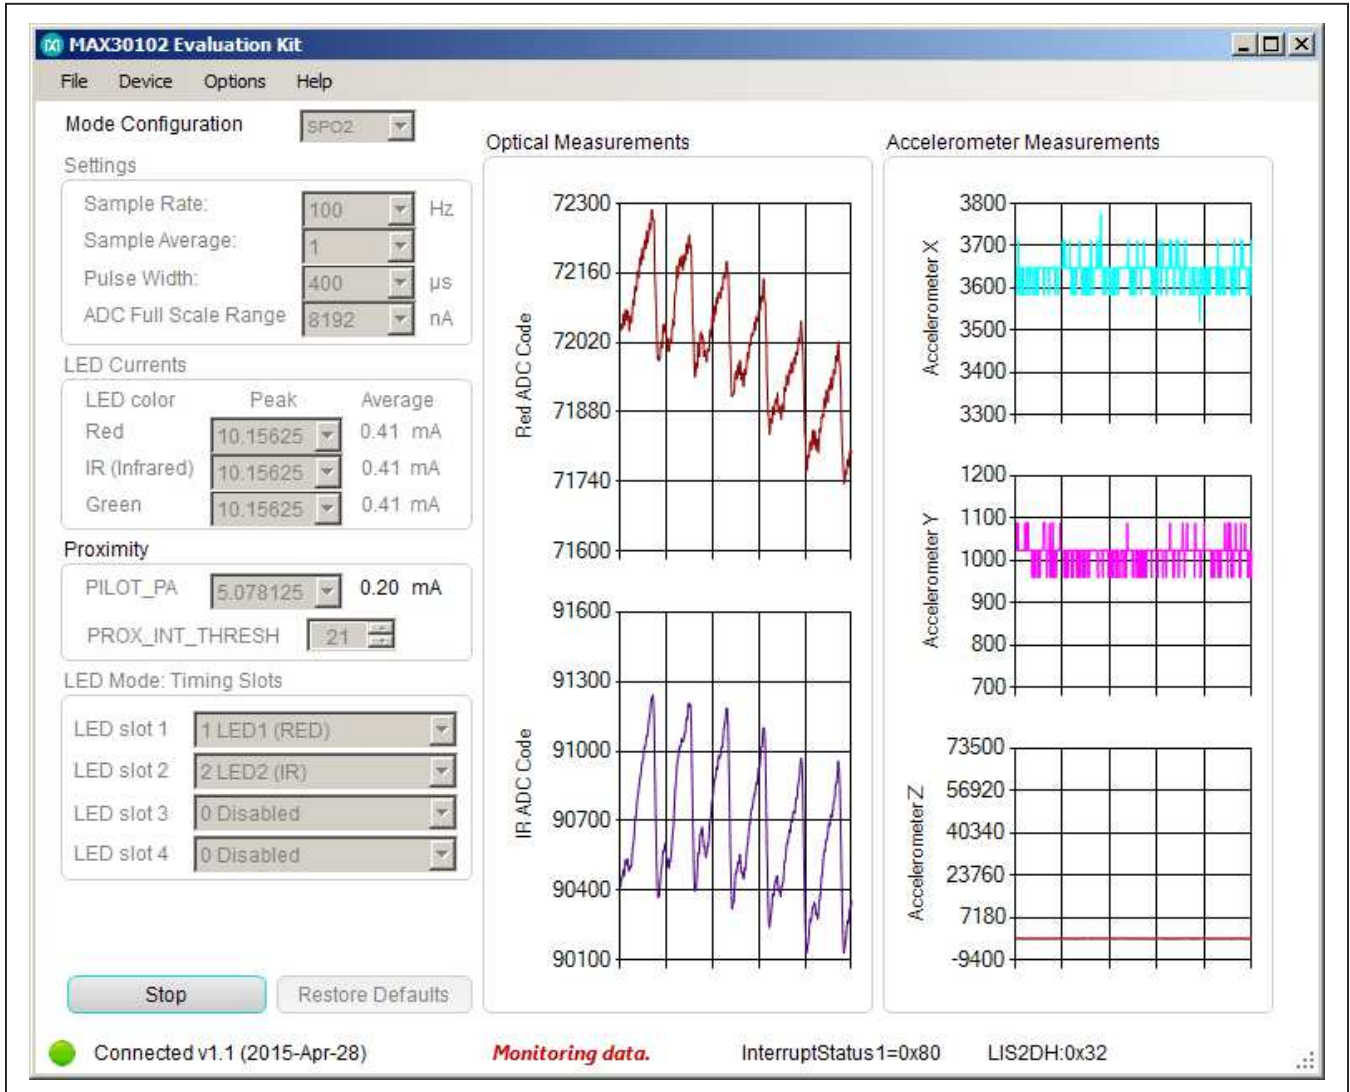
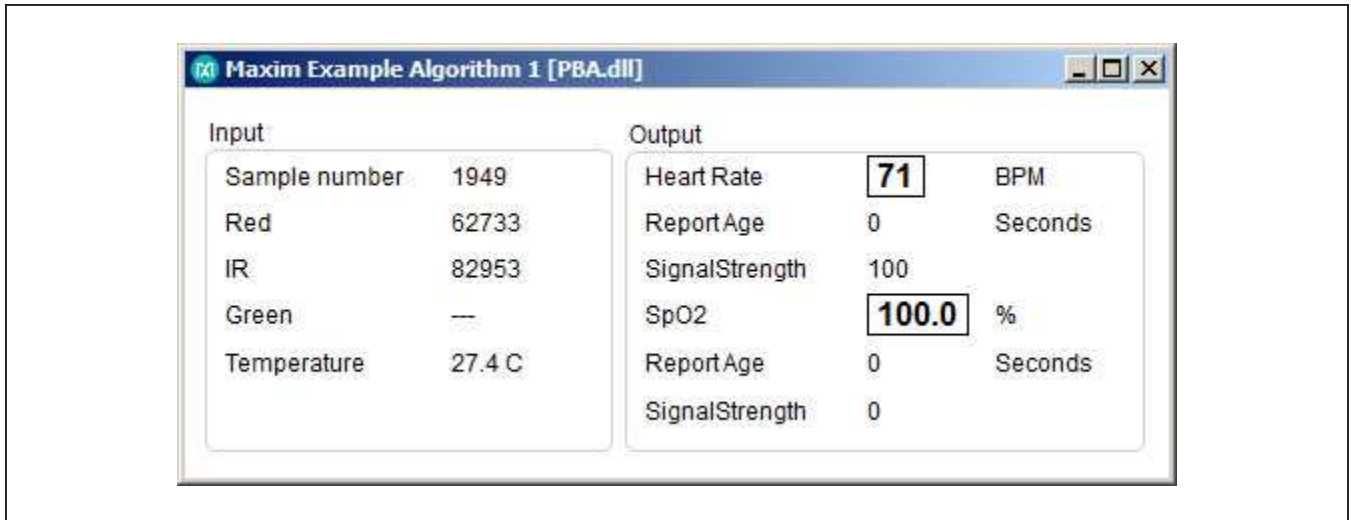
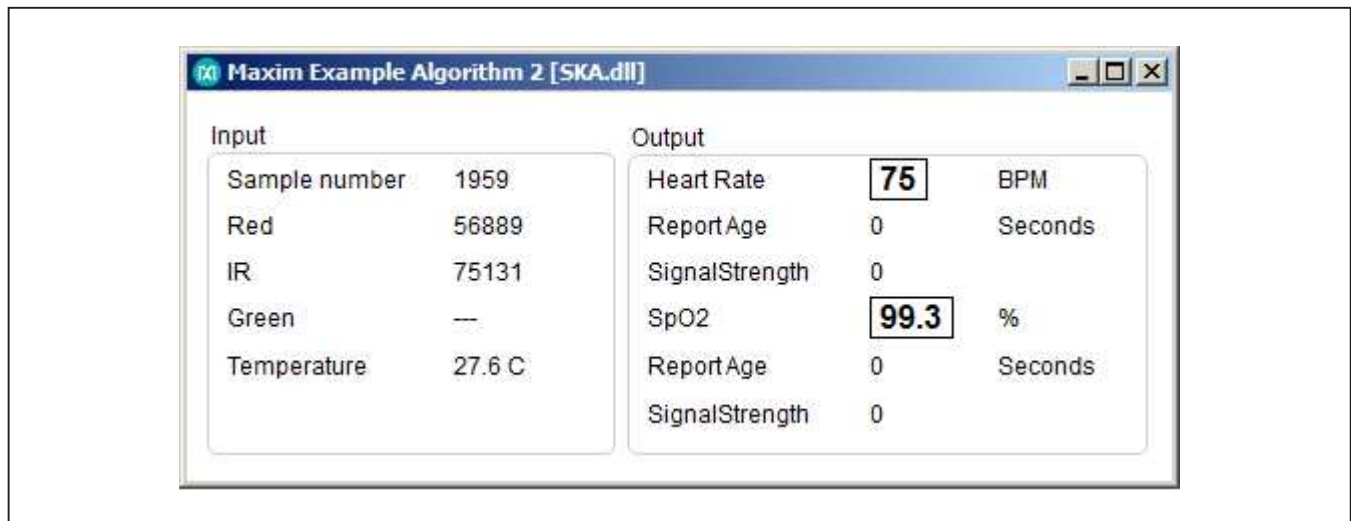

Figure 2. MAX30102 EV Kit Main Window (Sampling Data)
Figure 3. Maxim Example Algorithm 1 Window
Figure 4. Maxim Example Algorithm 2 Window
- 7) Place your finger in front of the MAX30102 (U4) of the EV kit and observe the **Measurement** graphs. See Figure 2. Example algorithm 1 and 2 are shown in separate windows (Figure 3 and Figure 4).
Figure 3 and Figure 4 are example algorithms to calculate heart rate and SpO₂. They are calculated using the raw ADC data from the LEDs.